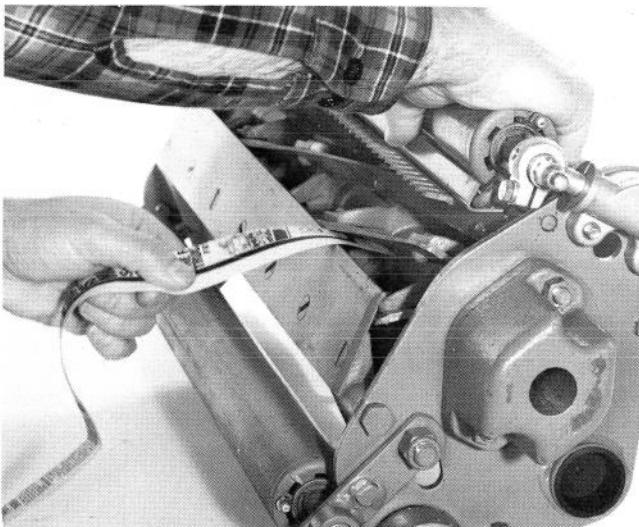

Figure 3
- After the adjustment is accomplished, check to see if reel can pinch paper when inserted from the front and cut paper when inserted at a right angle (Fig. 3). It should be possible to cut paper with minimum contact between the bedknife and the reel blades. Should excessive reel drag be evident (more than 7 inch pounds [0.8 N•m]) it will be necessary to either back lap or regrind the cutting unit to achieve the sharp edges needed for precision cutting (see Toro reel sharpening manual).